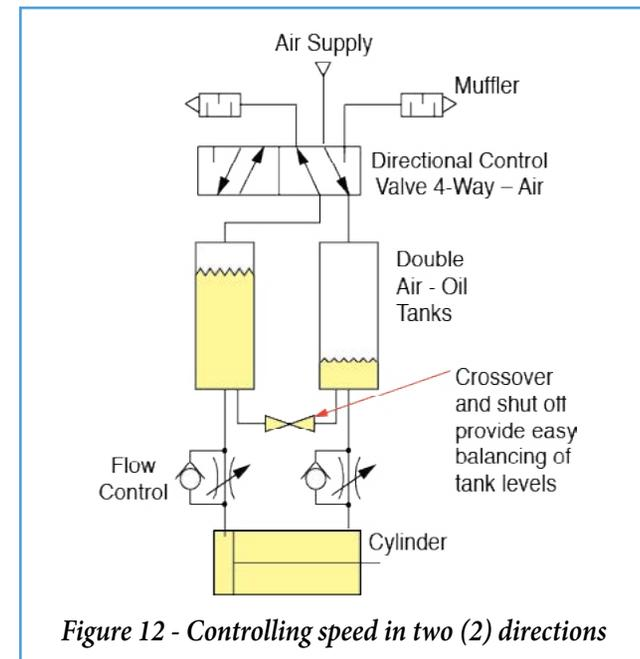

Figure 12 - Controlling speed in two (2) directions
2. If the fluid levels in the tanks become unbalanced, the fluid is bypassing the cylinder's piston seal. This can occur in a new cylinder with U-Cups designed for air service or side loading on the piston rod. In old systems the bypass can be a result of seal and cylinder wear, seal shrinkage, or other reasons. A crossover valve can allow for fluid level balancing. (See Figure 12)